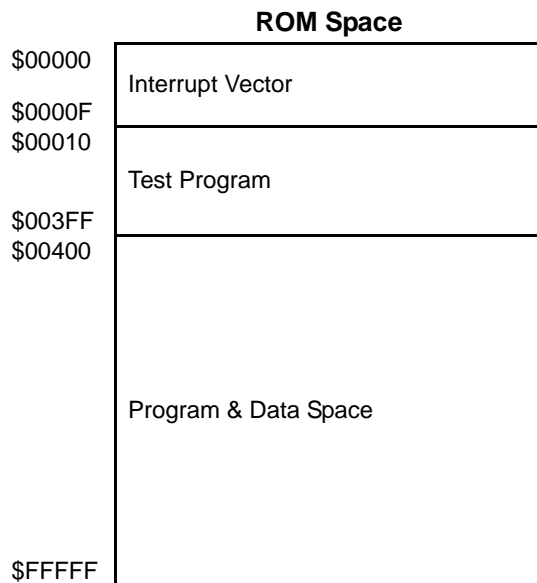

FIGURE 3.1: ROM Map of AM4FFxxx
The ROM memory could be divided into three portions. The first portion 0x0~0xF is addressed for interrupt in normal mode. The second portion 0x10~0x3FF is reserved for test program. The last portion 0x400~0xFFFF located in the address range that could be accessed by program counter (PC) and others' pointer simultaneously. Address bits[17:16] is accessed by setting PCH value in SFR\$14 to switch banks. That is, each bank has memory space 64K words. This portion could be used to store program and data. Figure 3.1 shows the ROM map.